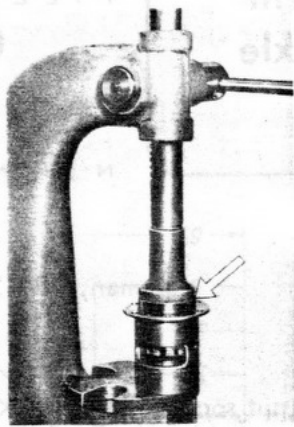

Fig. 3
2. Press outer ring of taper roller bearing 30 306 into the ball-race housing (Fig. 3). (Use suitable press).